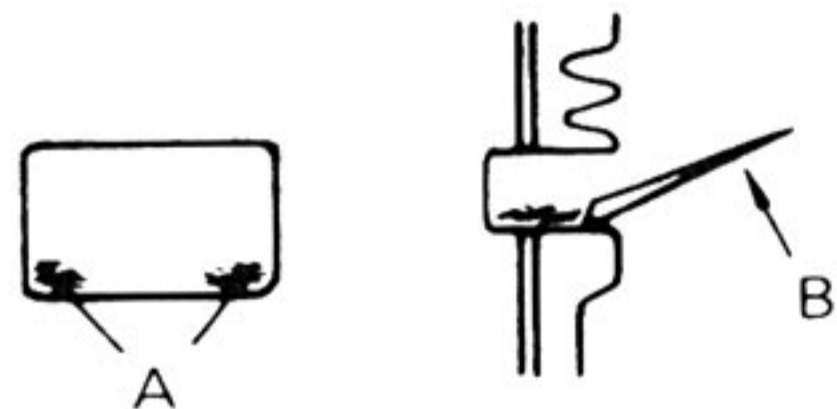

Fig. 4-3-7
Avoid the use of files for carbon removal, because the carbon build-up can not be completely removed as shown in Fig. 4-3-7, or undesirable cuts in these ports may be the result. It is advisable to use a carbon scraper (B) and remove the carbon from every corner of the port. (Fig. 4-3-7)